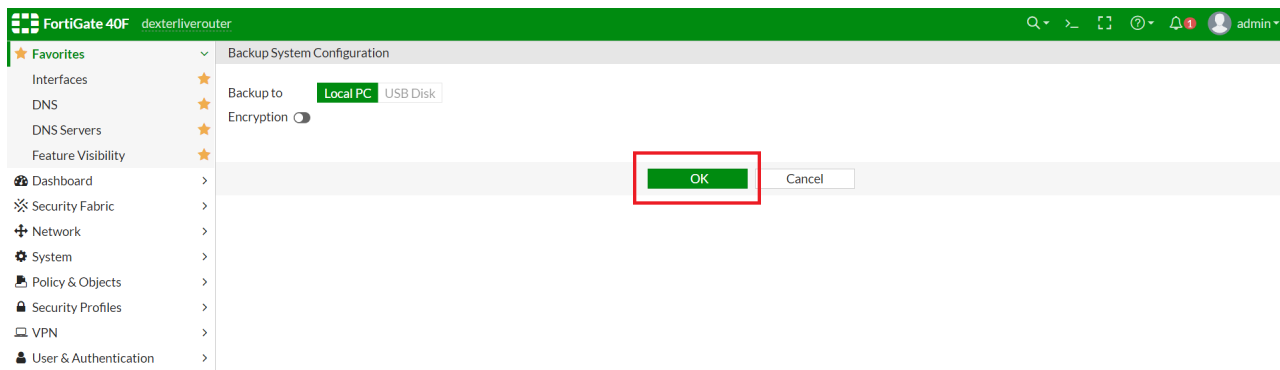

Figure 32
27. Download the backup file by selecting "OK". Save the backup file to the customers Desktop or their USB Drive. (Figure 32)